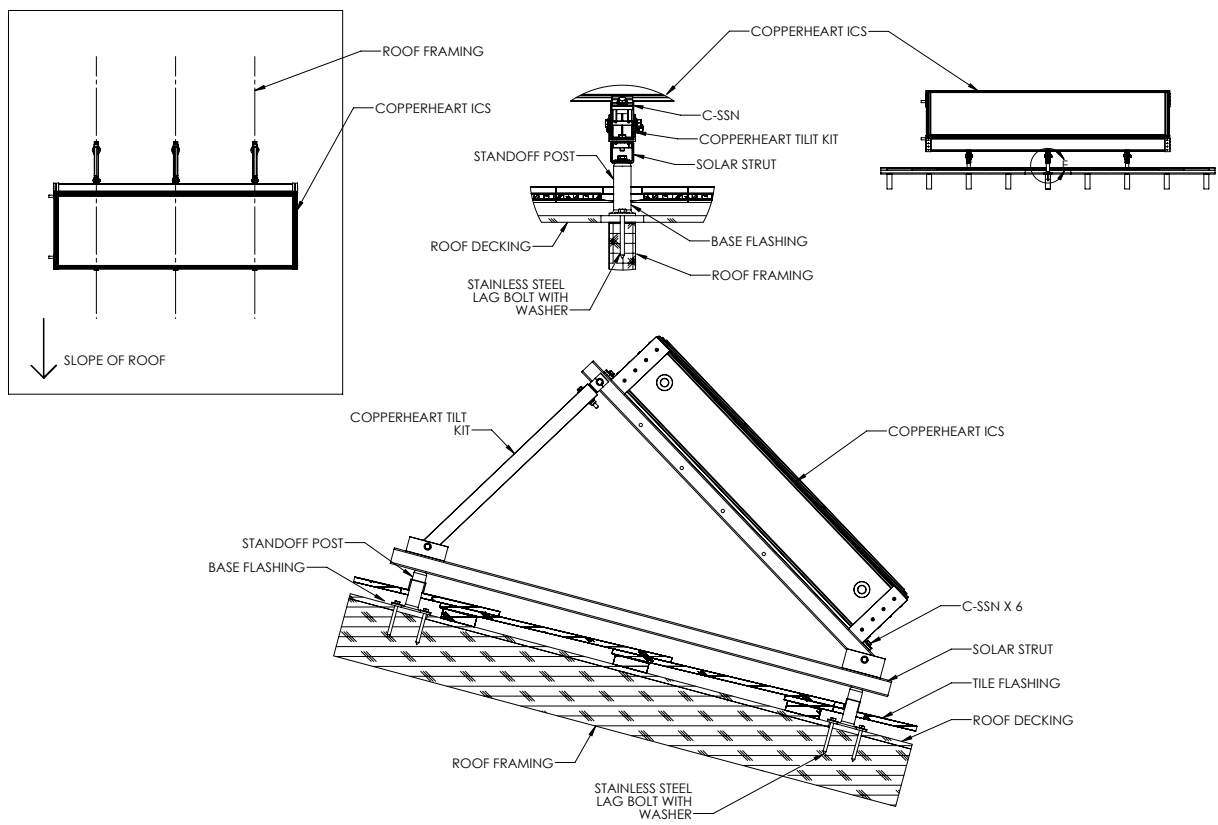

fig. 7
4.3.7 If the CopperHeart is mounted on a flat roof or the ground, a SunEarth CopperHeart Landscape Rack should be used to tilt the unit to the desired angle. The Copperheart Landscape Rack should also be used when the required tilt angle is greater than the roof slope (figure 7). Optimal system performance is achieved by establishing a tilt angle from horizontal equal to latitude plus ten degrees.